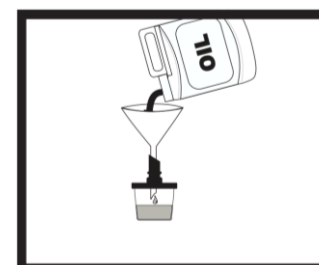

Fig. 3
- 9 Using a funnel, fill the reservoir (Fig. 3).